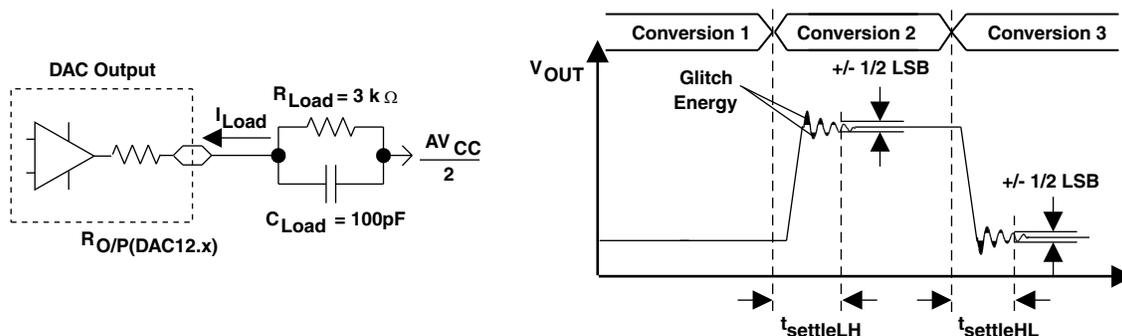

Figure 4-46. Settling Time and Glitch Energy Testing
| t_{ON} | SR | DAC12_xDAT = 800h, Error $_{V(O)}$ < ± 0.5 LSB ⁽¹⁾ (see Figure 4-46), V_{CC} = 2.2 V or 3 V | DAC12AMPx = 0 \rightarrow {2, 3, 4} | | 60 | 120 | μ s | |
- (1) R_{Load} and C_{Load} are connected to AV_{SS} (not $AV_{CC}/2$) in Figure 4-46.
- (2) Slew rate applies to output voltage steps ≥ 200 mV.
- (3) $R_{LOAD} = 3$ k Ω , $C_{LOAD} = 100$ pF